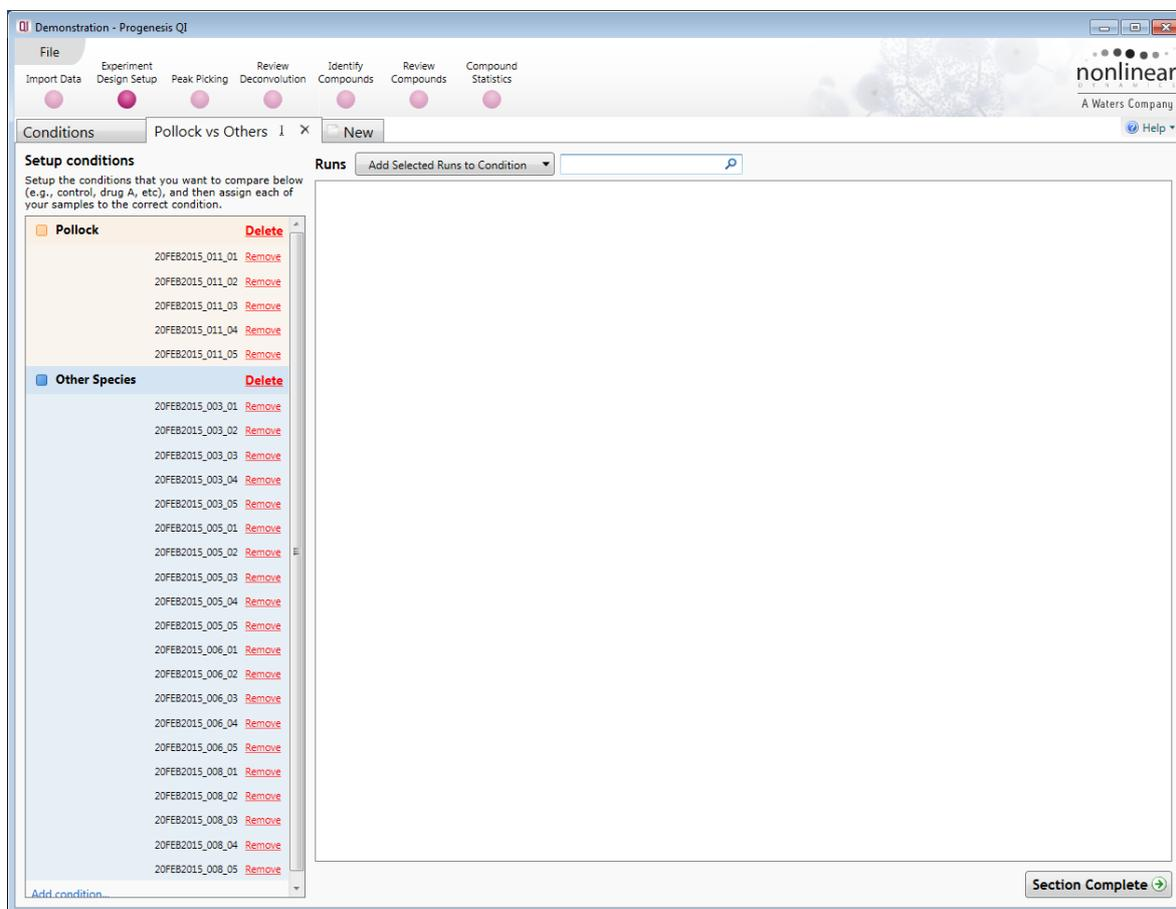

Figure 20: Remove all the groups except Pollock using **Delete** on each group, and then re-add all the 'freed' samples into a single comparison group.
3. Delete all the groups apart from the Pollock group, and then re-add all the other samples into a new condition (Figure 20).